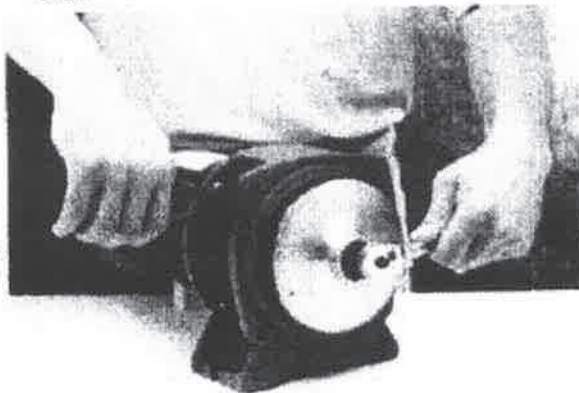

FIG. 2
- (a) Remove impeller by holding stub shaft with water pump pliers and unscrewing capscrew by hand. (Fig. 2)